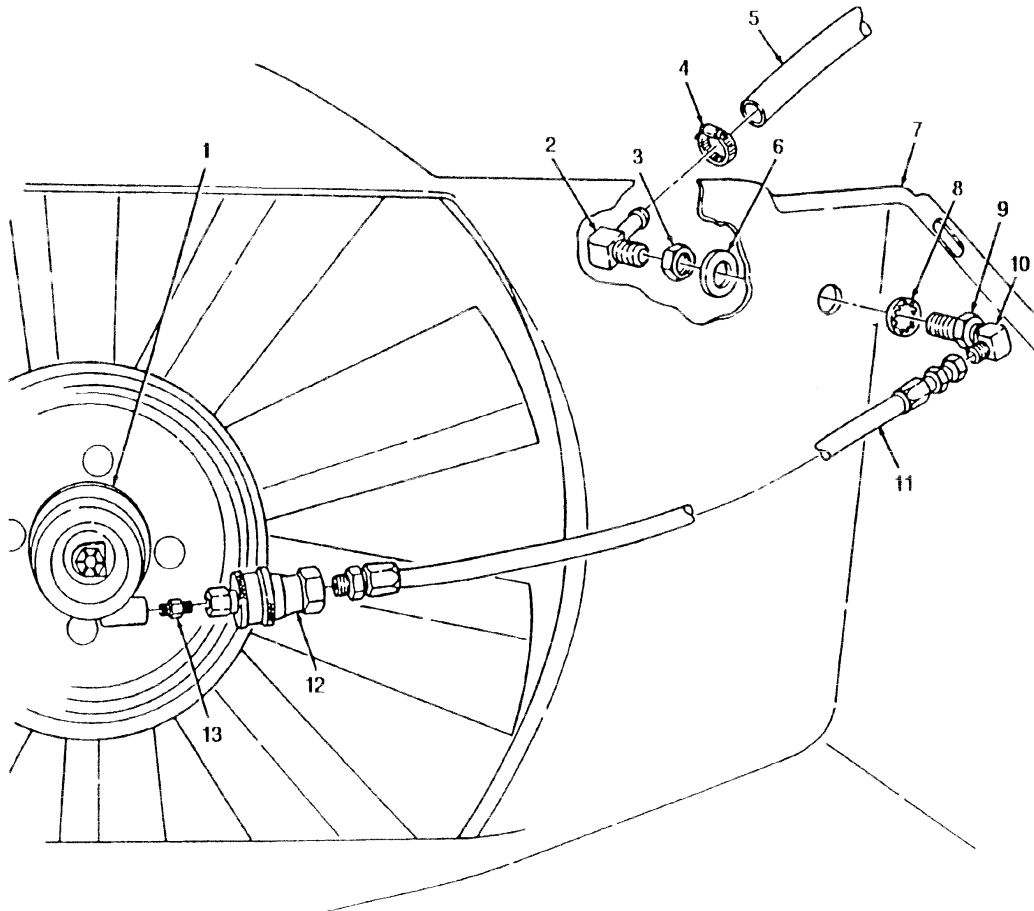

FIGURE 3-15
1. Install NSN 4720-01-394-3747 hose (11) on elbow fitting (10). (see figure 3-15)
2. Install P/N 12342947 quick-disconnect (12) on fitting (13).
3. Install fan drive hydraulic hose (11) in quick-disconnect (12).
4. Install NSN 4730-00-278-3721 fitting (13) in fan drive (1).
5. Position existing adapter bushing (9) and washer (8) in fan shroud (7) and secure with existing washer (6) and nut (3).
6. Install existing elbow fitting (2) in adapter bushing (9) on fan shroud (7).
7. Install existing hydraulic hose (5) on elbow fitting (2) and secure with existing clamp (4).